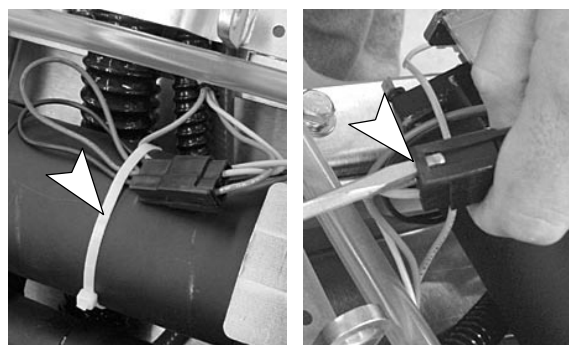

Fig. 10
3. Carefully cut the wire-tie shown, then disconnect the wiring from the transaxle. Use a small flat head screwdriver to disengage the connector plug (Figure 10).